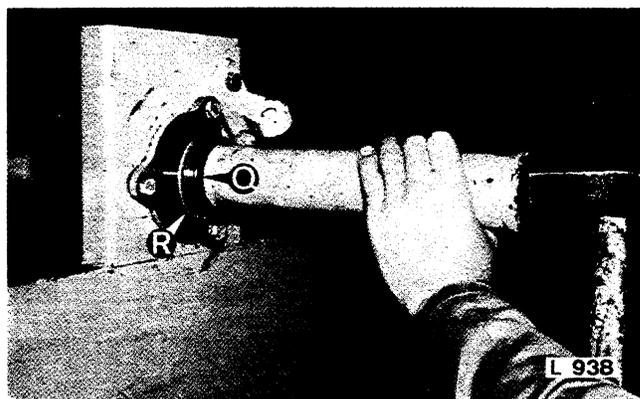

FIGURE 90
**NOTE:** TAKE SPECIAL CARE NOT TO LOSE THE SPACER RING "Q" SHOWN IN FIGURE 90.
Install a new seal, Point R, Figure 90, then install a spacer ring as shown at Point Q, Figure 90 on the shaft. Place the beveled side of the spacer facing toward the bearing. The seal ring should be moved up against the bearing. This can be done with a piece of pipe of the proper diameter, see Figure 90.